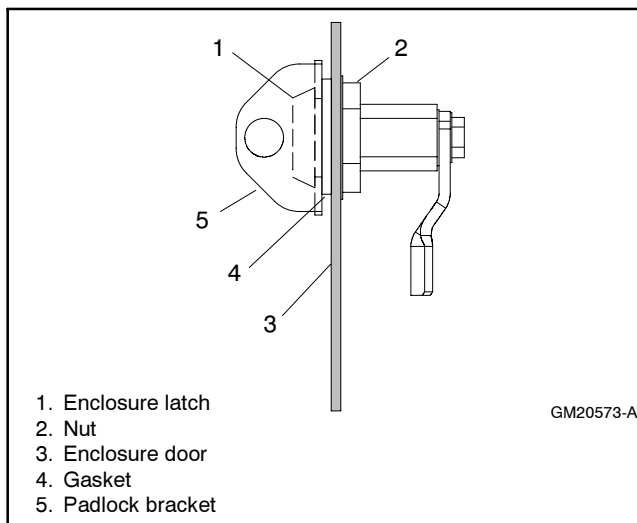

Figure 7 Enclosure Latch
3.2 Place the padlock bracket (GM20576) and enclosure latch gasket on the enclosure latch. Place the compression latch in the hole of the security cover. Position the padlock bracket with the padlock holes horizontal. Install and tighten the mounting nut. See Figure 7.